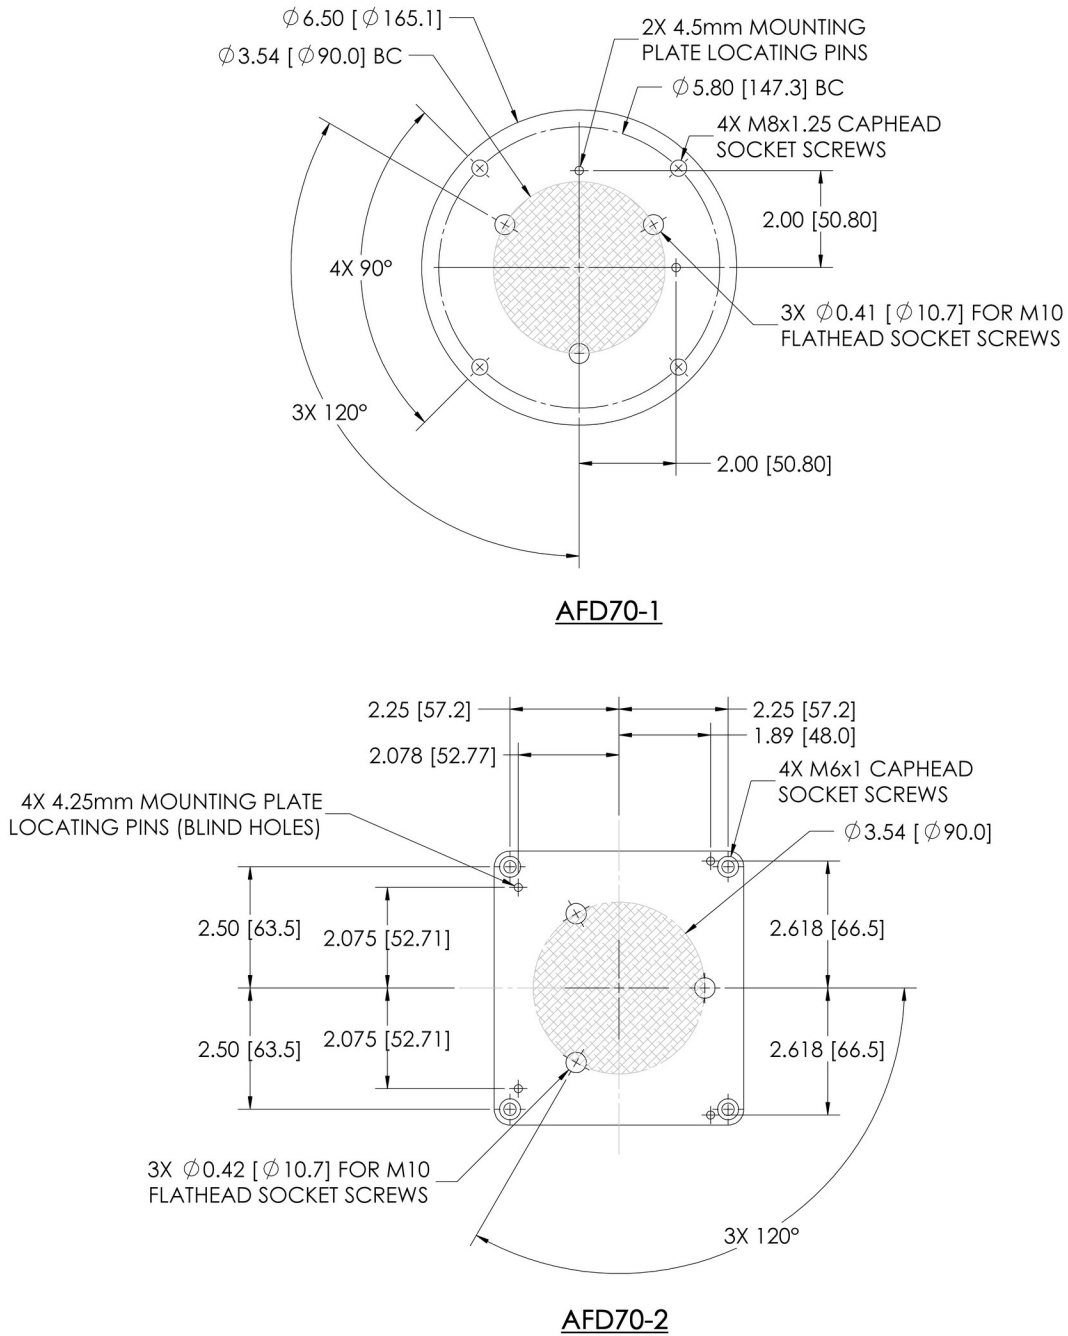

Figure 4: AFD70-1 and AFD70-2 Mounting Brackets
The AFD70-1 and AFD70-2 are supplied with a standard Mounting Bracket shown in Figure 4. A minimum of (3) three holes should be utilized to secure the Mounting Bracket to the robot mounting flange.
If the Mounting Bracket is supplied blank or additional holes are required, it must first be removed from the device before drilling. (4) Four M6x1 Socket Head Cap Screws are used to attach the Mounting Bracket to the *AFD72* force devices. Once the Mounting Bracket is removed, mounting holes may be placed anywhere within the crosshatched area shown in Figure 4. *PushCorp, Inc.* will supply engineering support to determine the mounting hole locations at no cost.